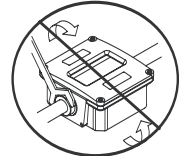

Figure 7. Rotating Transmitter
6. After installation, rotate transmitter by hand to view display. See Figure 7.